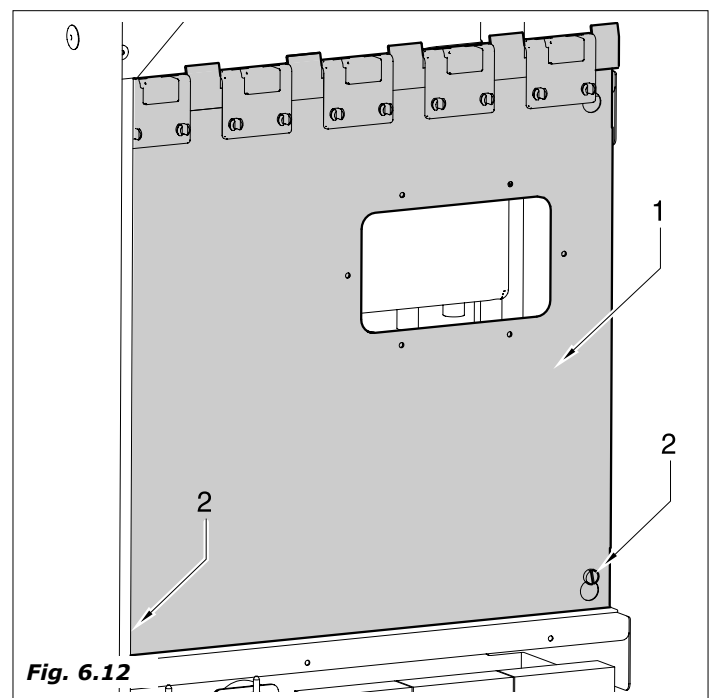

Fig. 6.12
To access the electrovalve placed in the instant boiler, remove panel (1) by loosening the two screws (2) shown in figure 6.12